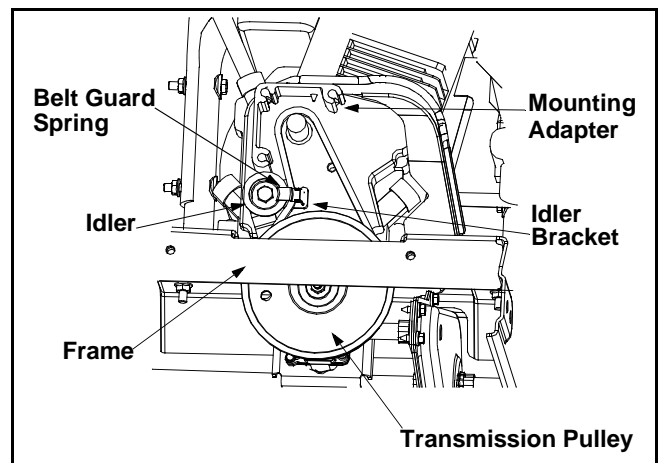

Figure 15
- Insert the new belt between the frame and transmission pulley. It may be necessary to use a screwdriver to pry the frame away from the pulley in order to insert the belt. Being careful not to damage the pulley, apply a slight upward pressure and place belt around transmission pulley. See Figure 15.
- Press down on the belt guard spring by the idler pulley and release spring from the slot on the idler bracket. Place the belt on the idler pulley and place belt guard spring back into the slot on the idler bracket. See Figure 15.